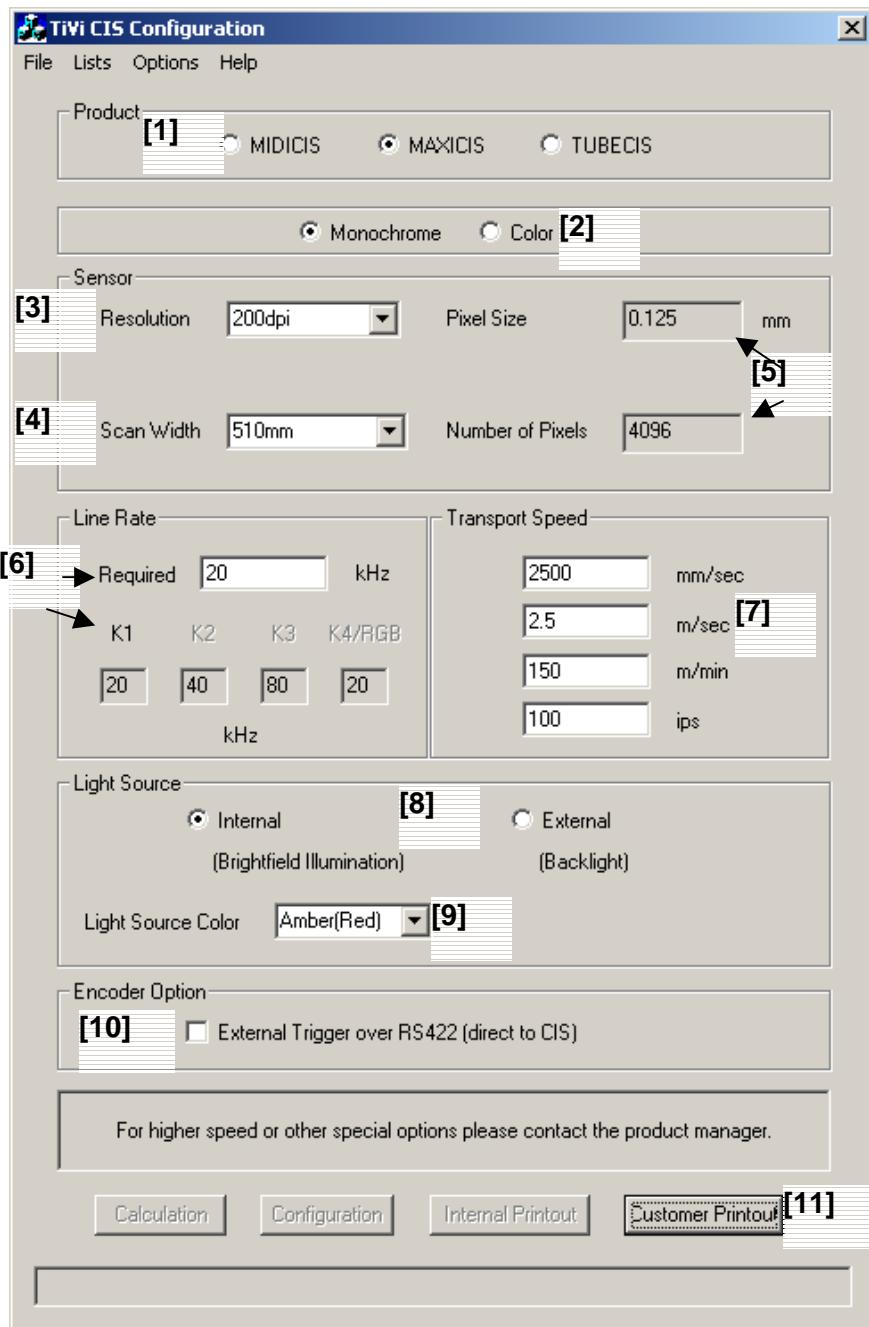

Figure 1 – Configurator Interface
- g) type in the line rate [6] **figure 1**, depends on your transport speed, and the configurator will calculate the possibility and the CIS version (K). its also possible to type in the transport speed [7] **figure 1** and the Configurator will calculate the line rate which will be needed.
- h) Choose the light source, depends on your used object and error type [8] **figure 1**
- i) The light source color [9] **figure 1** depends on [2] **figure 1** and the color of the object. If you choose an Color sensor in [2] the light source will be automatic RGB. If you have an object which could have different colors than its better to use a white light source.
- j) Optionally the MAXI CIS has an external trigger connector over RS422 [10] **figure 1**. This is useful if an direct trigger to the CIS is necessary.
- k) After the configuration it's possible to print out [11] **figure 1** the unit specifications [12] **figure 2**